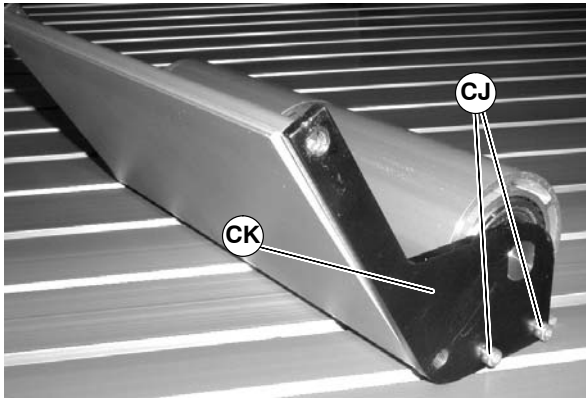

Figure 71
4. Remove screws (CJ of Figure 71) and idler guide side plate (CK).